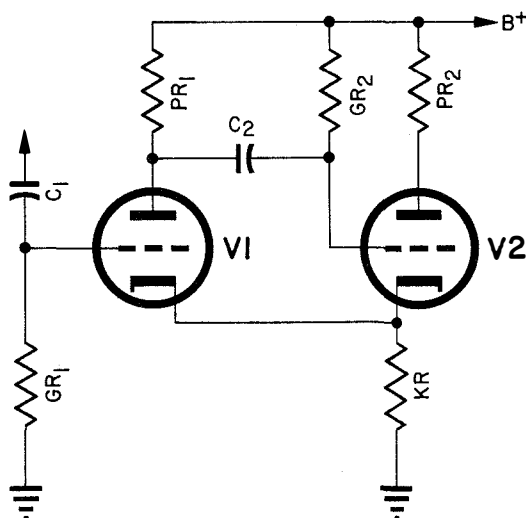
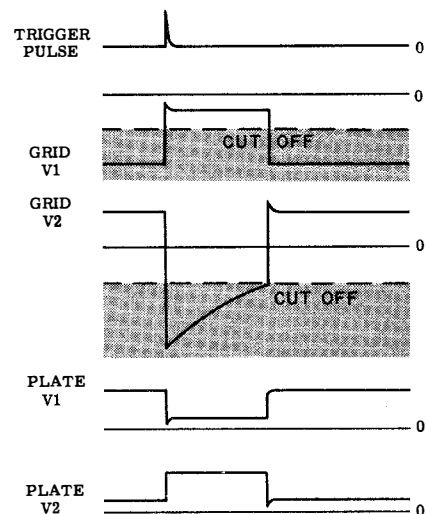

Figure 2-2. Basic Single Stroke Multivibrator
Figure 2-3. Multivibrator Tube Element Potentials
(1) "One-shot" Multivibrator Operation. Figure 2-2 shows a diagram of a basic cathode coupled single stroke multivibrator similar to those used in this equipment. Figure 2-3 shows the voltage potentials on various circuit elements during the multivibrator firing cycle.